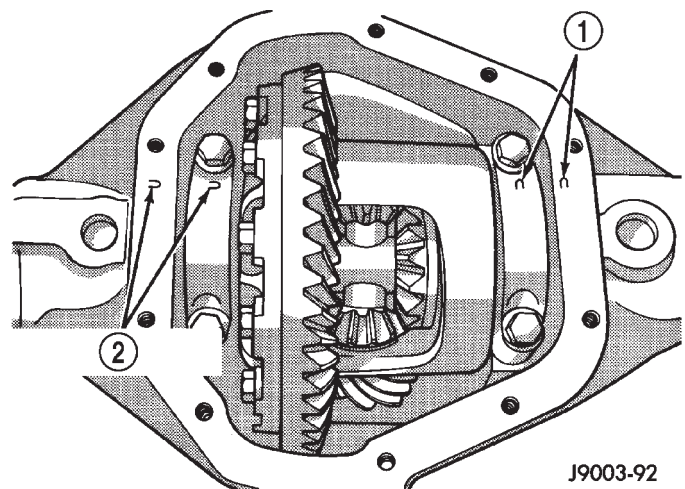

Fig. 34 Differential Bearing Cap Reference Letters
(4) Remove the dial indicator.
(5) Install differential case, and the differential preload shims for the 181FBI axles, in the housing. Ensure that the differential bearing cups remain in position on the differential bearings. Tap the differential case to ensure the bearings cups are fully seated in the housing.
(6) Install the bearing caps at their original locations (Fig. 34).
(7) Loosely install differential bearing cap bolts.